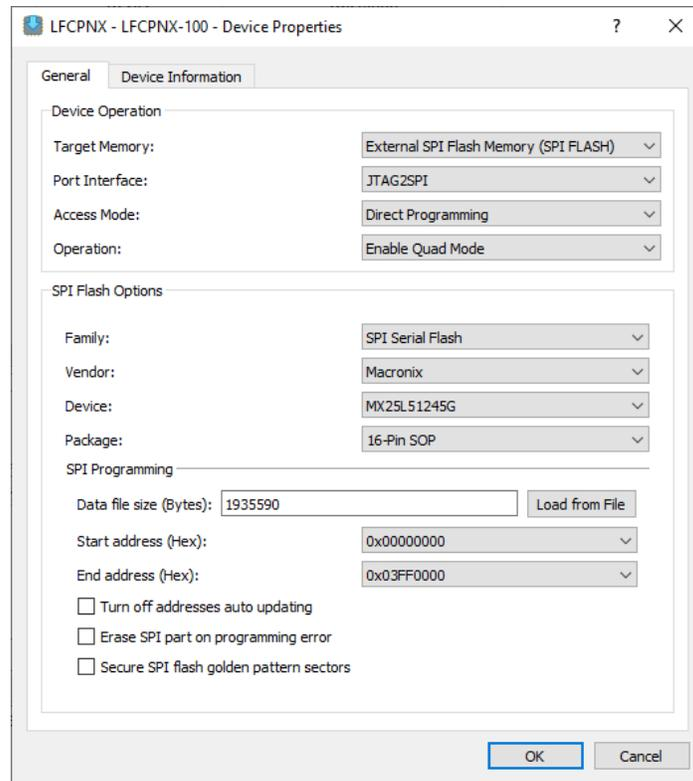

Figure 6.19. Enable Quad Mode Operation
Certain SPI flash in the market requires you to program the quad enable (QE) bit for quad access, both read and write access. If your flash requires the QE bit to be set, select the **Enable Quad Mode** operation in the Device Properties window, as shown in Figure 6.19.